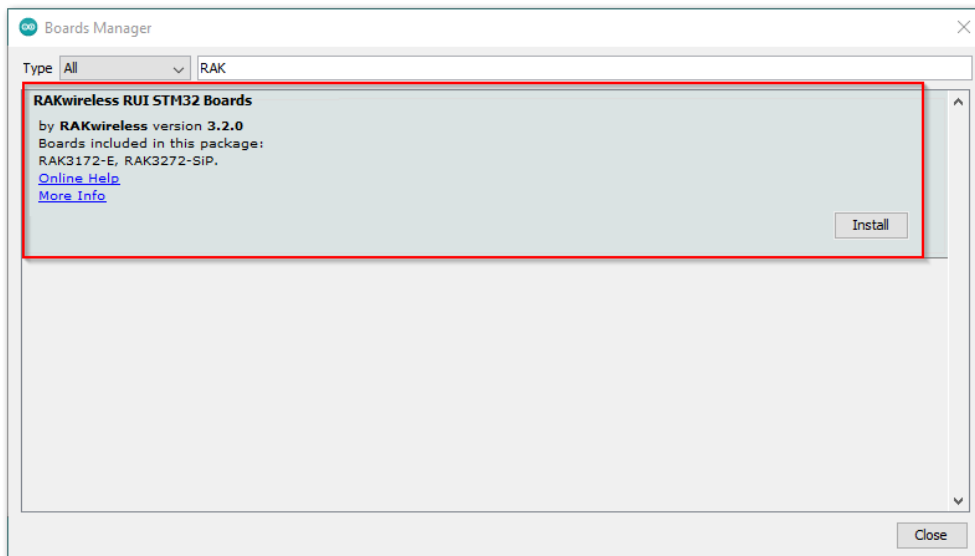

Figure 8: Installing RAKwireless RUI STM32 boards
- Write **RAK** in the search bar, as shown in **Figure 8**. This will show the available RAKwireless module boards that you can add to your Arduino Board list. Select and install the latest version of the **RAKwireless RUI STM32 Boards**.